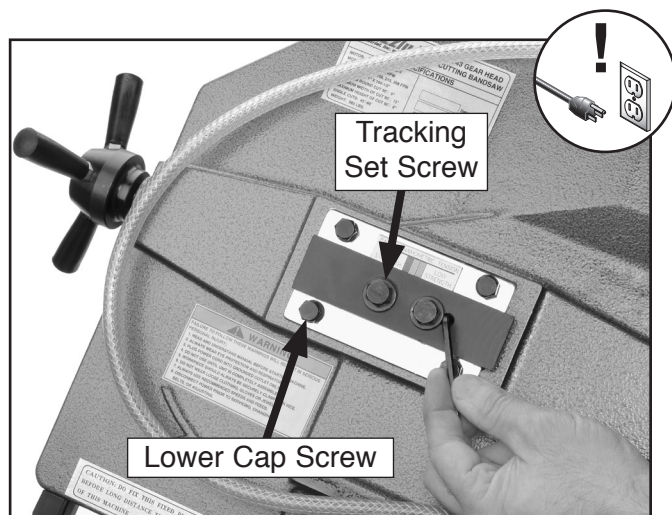

Figure 40. Adjusting tracking set screw.
5. Loosen, but do not remove the lower cap screw in the blade wheel tilting mechanism (**Figure 40**).
7. Adjust the tracking set screw with a 4mm hex wrench as shown in **Figure 40**, then tighten the cap screw loosened in **Step 5**.